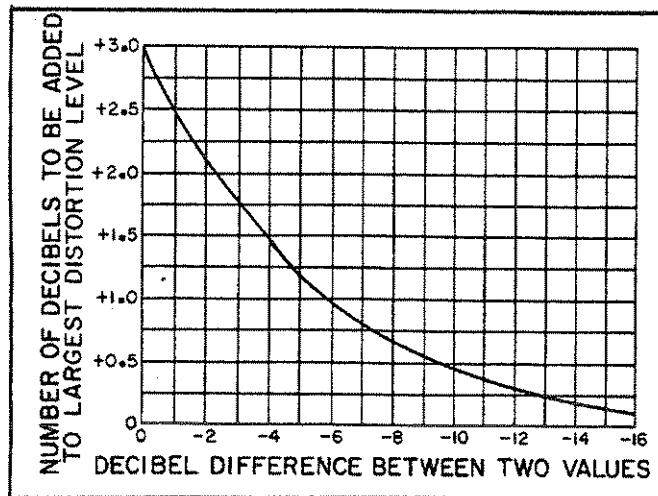

Figure 4-3. Logarithmic Addition of Harmonic Components.
g. Calculate the Total Harmonic Distortion using the graph shown in Figure 4-3. As an example—if the amplitude of the second harmonic is -110 dB and the third harmonic amplitude is -114 dB the dB difference between the two is -4 dB. Locate this number on the horizontal axis of the graph. The -4 line intersects the curve at approximately the $+1.5$ level on the vertical axis. The total harmonic distortion is therefore the amplitude of the largest harmonic (second harmonic) plus the number determined on the vertical axis (-110 dB $+ 1.5$ dB $= -108.5$ dB).